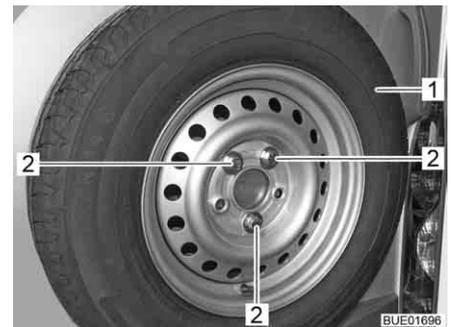

Fig. 227 Securing the spare wheel
- Unscrew three securing bolts (Fig. 227,2).
- Remove spare wheel (Fig. 227,1).